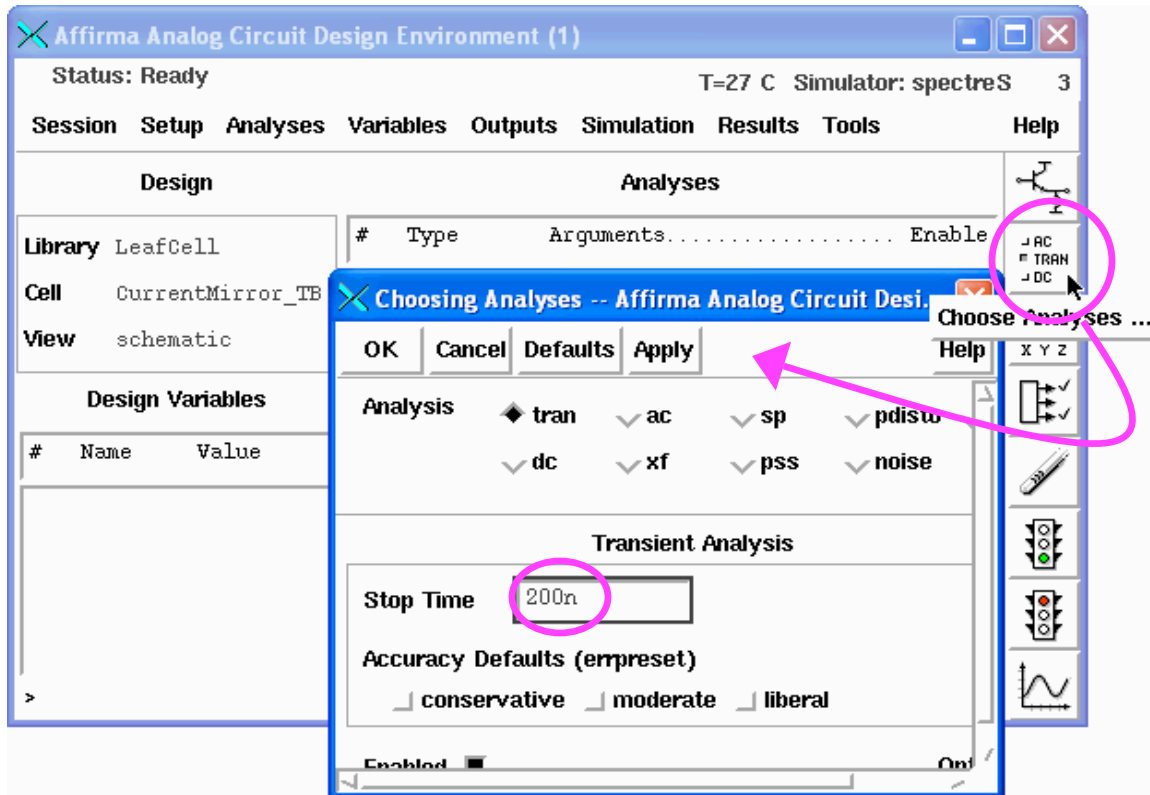

Figure 124: Setting up the Affirma for simulation.
5. Click to open the Choose Analysis Form (Figure 124.) Set it up as in Figure 124.